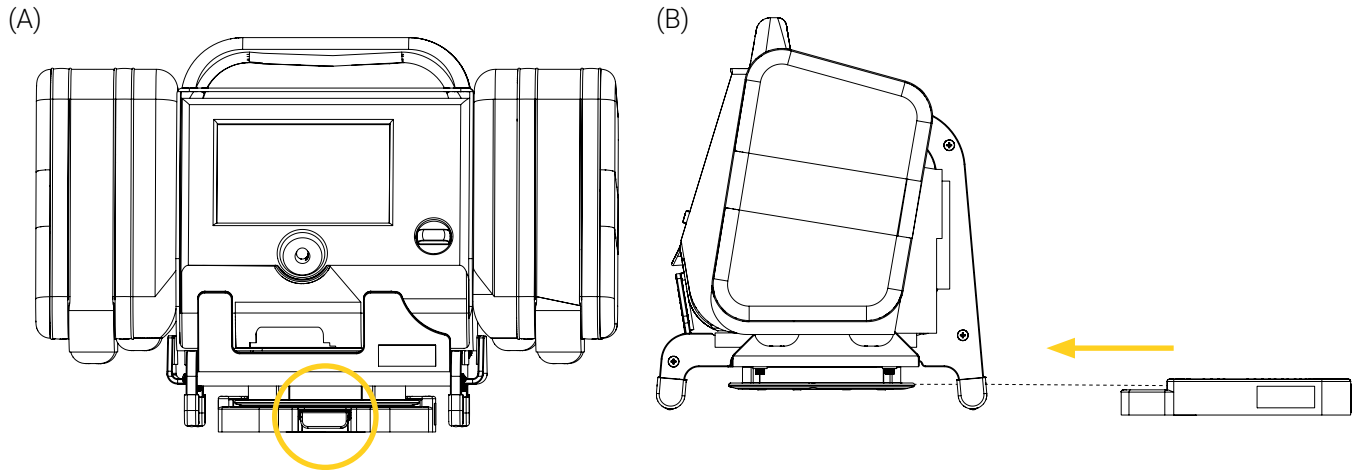

Figure 6: Removing the support bracket from a Standard Surface Base
1. Press and hold the quick release button of the Standard Surface Base (Figure 6 A), then pull the support bracket out of the base (Figure 6 B).